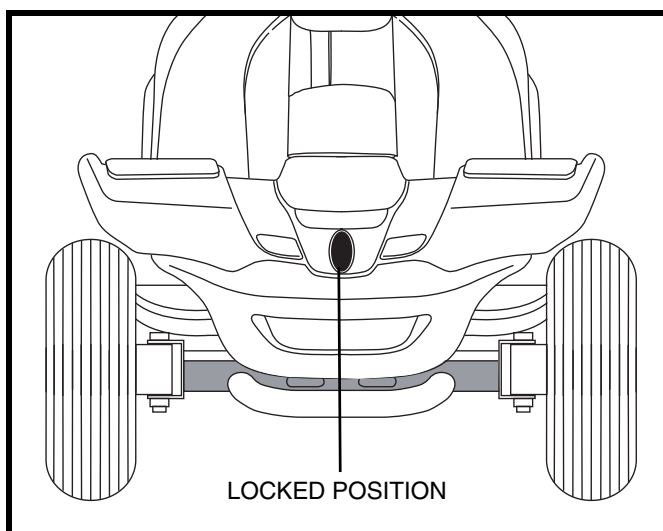

Figure 21. Tiller Lock Knob (Locked)
2. Lock the tiller in the straight ahead position by pushing the tiller lock knob in and turning it clockwise 90°. **See figure 21.** The front wheel must face forward in order to lock the tiller.